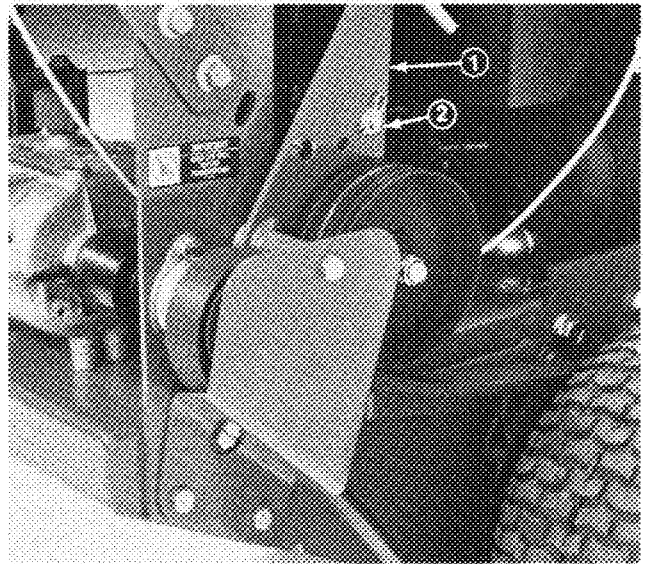

Figure 9
3. Check gap between control bar and upper handle when fully engaging wheel belts. Gap should be approximately 1 to 1-1/4" (Fig. 9).
6. If an adjustment to brake rods is required, remove hairpin cotter and washer securing brake rod fitting to idler bracket (Fig. 9).